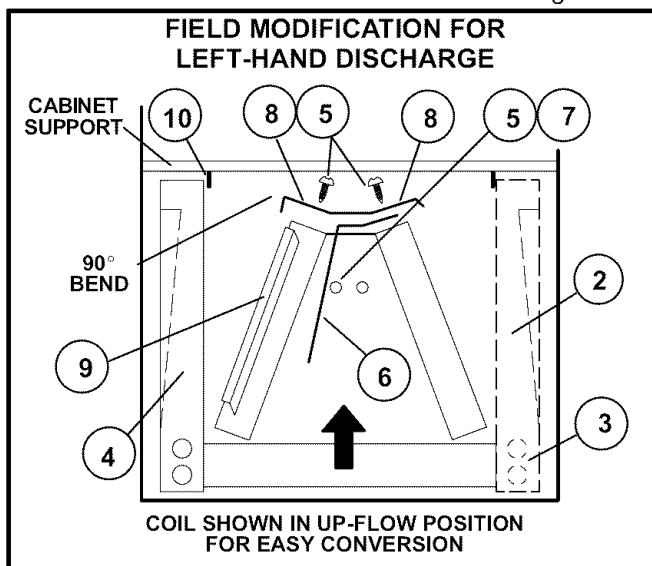

FIGURE 4
- 4 -Rotate drain pan 180° front to back and install it on the opposite side of coil. Follow the instruction steps with the corresponding numbers in figure 4.
- 5 -Remove screws from top cap. Remove horizontal drip shield screw located in the center of the back coil end seal. See figure 4.
- 7 -Remove plastic plug from left hole on coil front end seal and reinstall plug in back hole. Re-install horizontal drip shield screw in front coil end seal. Drip shield should drain downward into horizontal drain pan inside coil. See figure 4.
8 -Rotate top cap 180° front to back and align with unused screw holes. Holes must align with front and back coil end plates. Note that top cap has a 45° bend on one side and 90° bend on the other. **The 90° bend must be on the same side as the horizontal drain pan.** See figures 4 and 5.
9 -Remove the condensate shield from the right front and install it on the left front as shown in figure 4.
10 -From the upflow position, flip cabinet 90° to the left and set into place. Put coil assembly back in place. Secure coil in place by putting the cabinet support rail back in place. See figures 4 and 6.